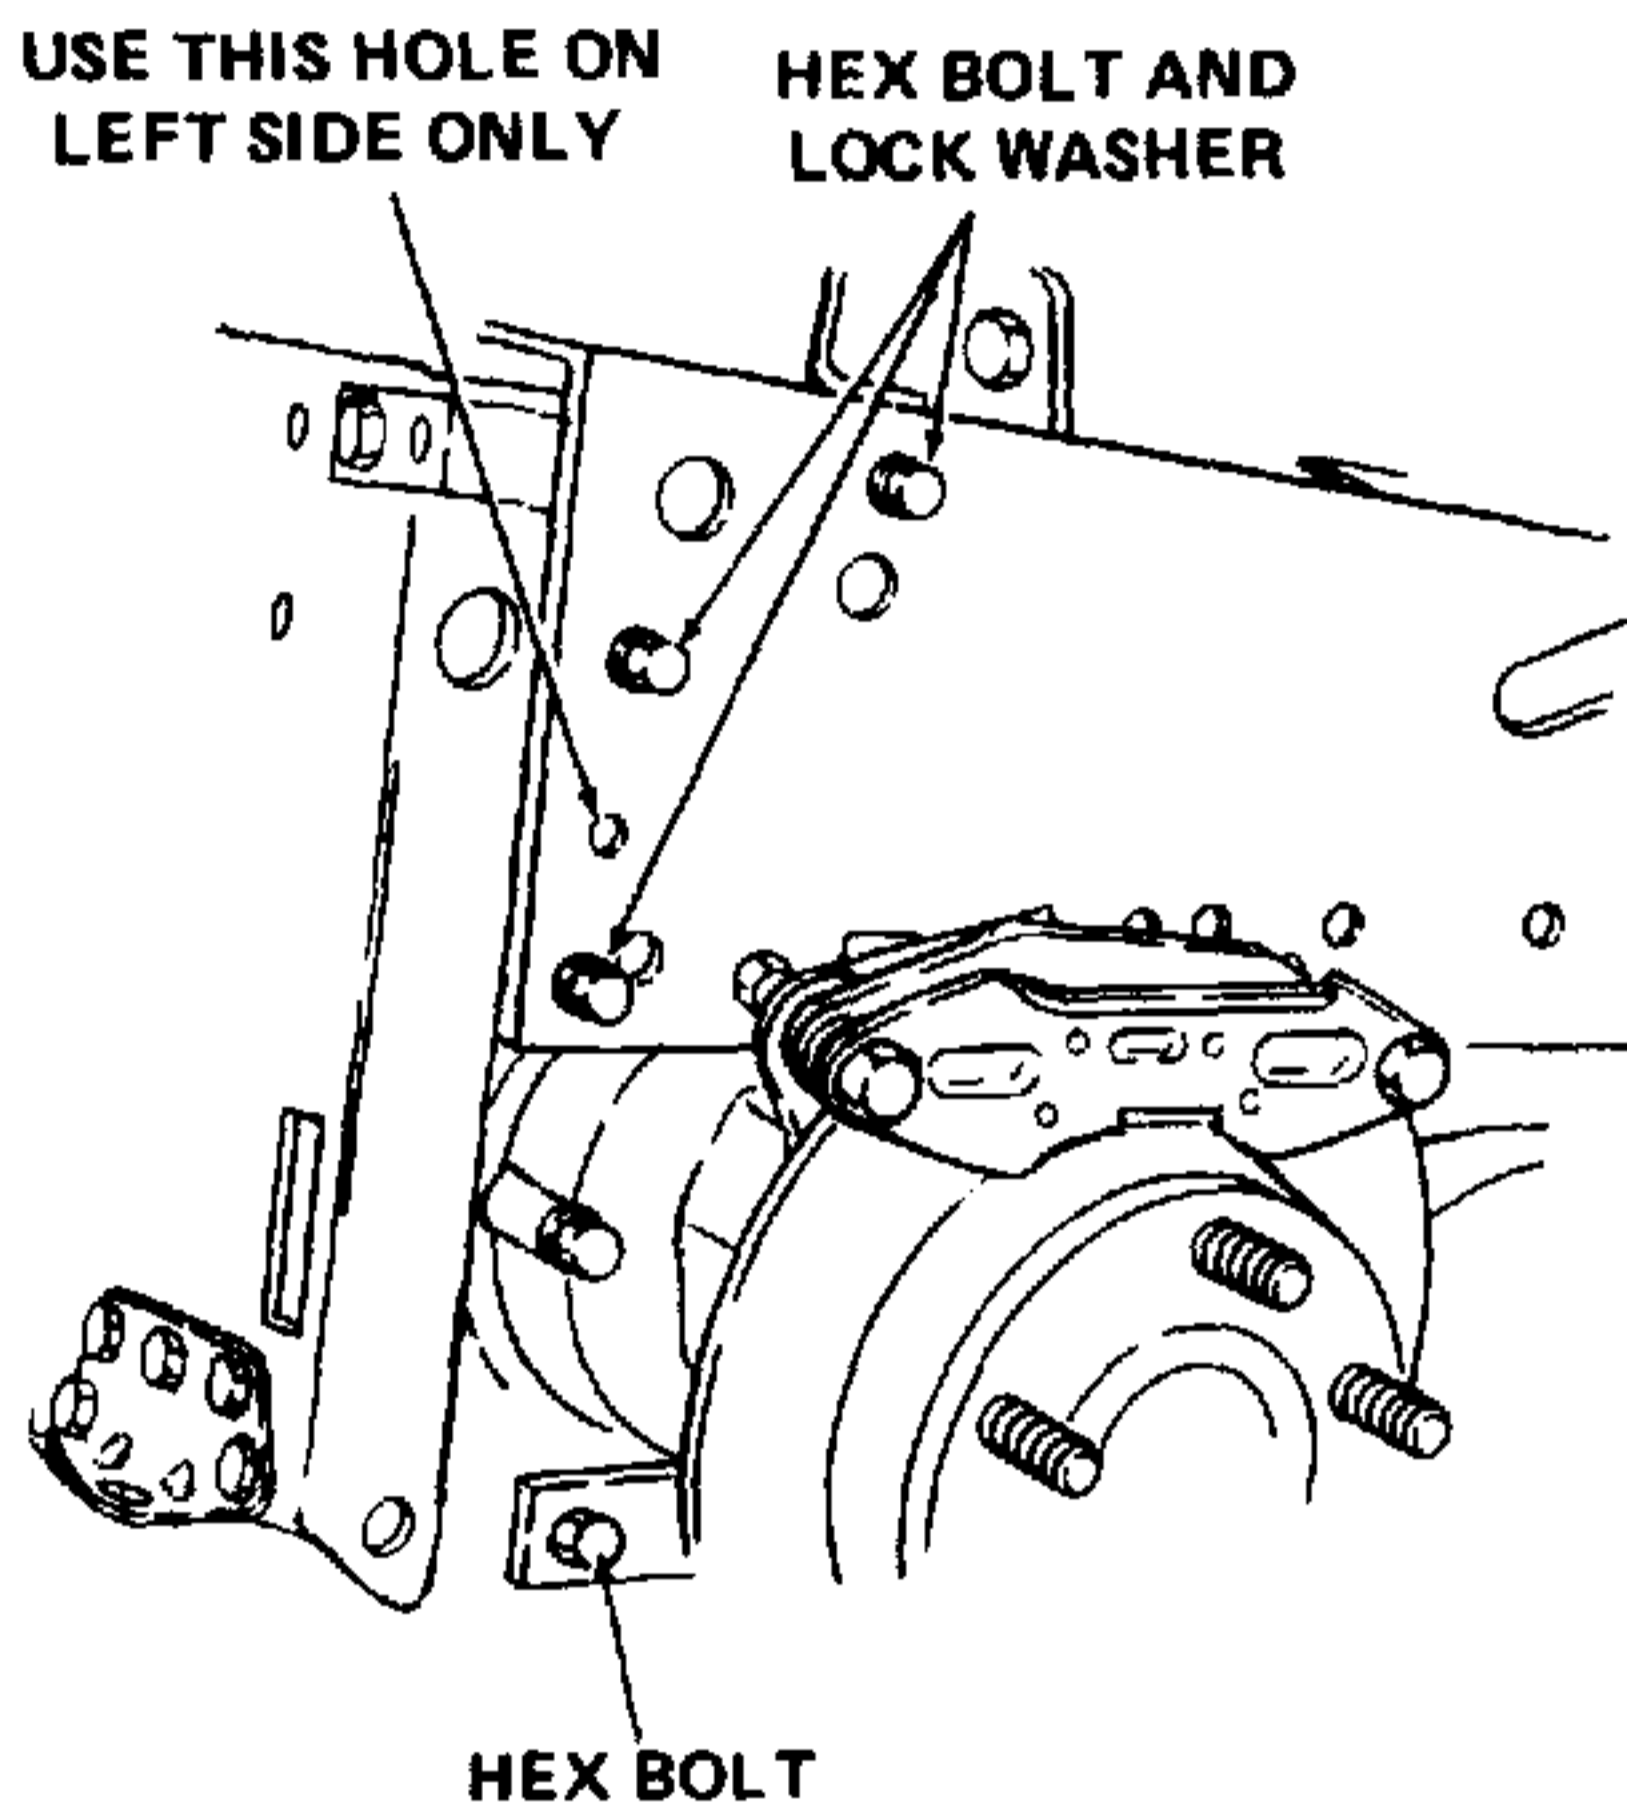

Figure 7-52. Installing 3-Point Hitch Plate.
- 3. Install 3-point hitch plate (1). Refer to Figure 7-52.